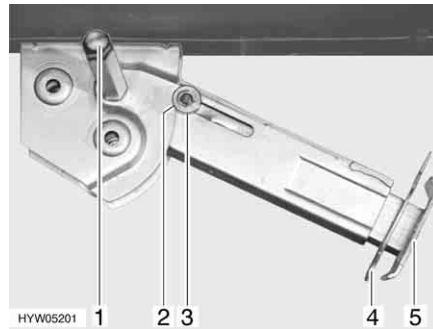

Fig. 33 Steady leg
- Place the socket spanner on the hexagonal nut (Fig. 33,1) and rotate until the steady leg is in a perpendicular downward position.
- Remove the splint (Fig. 33,4) out of the support foot extension (Fig. 33,5).
- Place the socket spanner on the hexagonal nut (Fig. 33,1) and rotate until the steady leg is clear of the ground.
- Push in the support foot extension (Fig. 33,5) and insert the splint (Fig. 33,4) in the drilled hole in the support foot extension.
- Rotate the hexagonal nut (Fig. 33,1) with the socket spanner until the steady leg has swung upwards and the guide disc (Fig. 33,3) has completely retracted into the notch (Fig. 33,2).